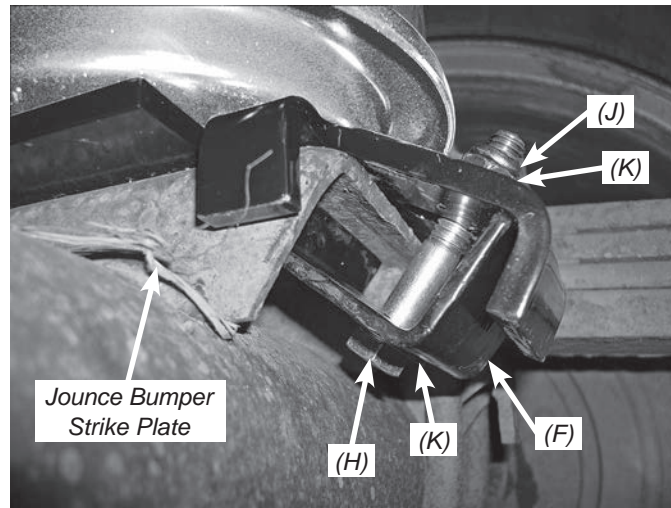

fig. 12
1. Raise the axle or lower the frame and make sure the lower bracket has nested over the jounce bumper strike plate (Figs. 12 & 13).